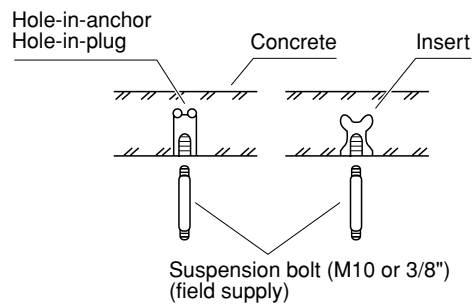

Fig. 3-58
- Insert suspension bolts as shown in Fig. 3-58
- (2) Screw in the suspension bolts allowing them to protrude from the ceiling as shown in Fig. 3-58. (Cut the ceiling material, if necessary.)